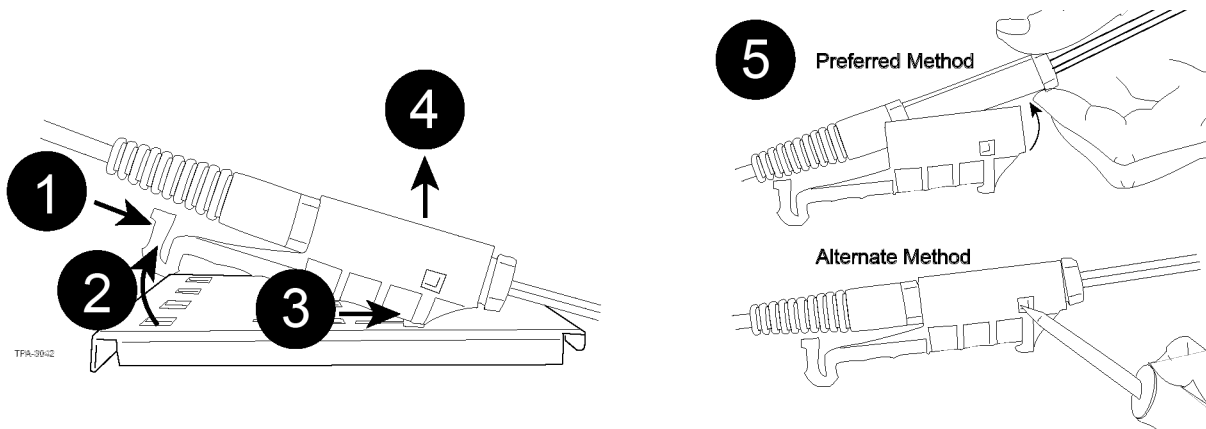

Figure 34 — Remove Trunk Cable from U-Clip Cradle
Step 1: Push in on the latch as shown in Figure 34.